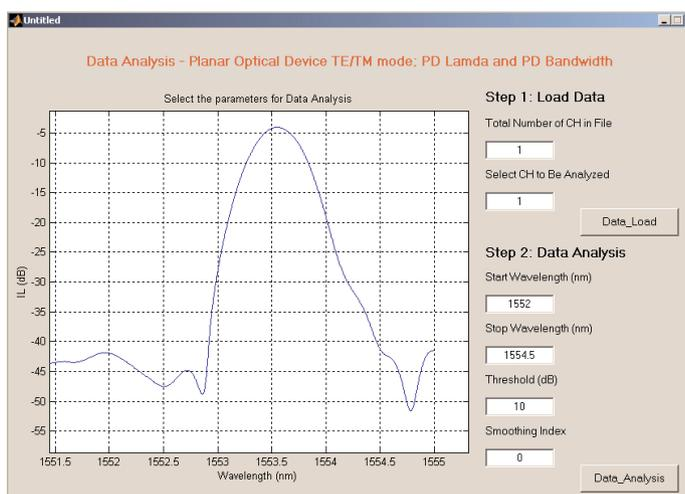

Figure 4. Zoom the analyzed area and input the data analysis parameters
After the data is loaded, use the left mouse button to zoom the area to be analyzed as shown in figure 4. Type the start and stop wavelengths for analysis. Select the insertion loss (IL) threshold used for calculating the central wavelength (CW) and bandwidth (BW). Select the smoothing index used for noise reduction. The definition of smoothing index is the same as the SWS application software. Click the “Data\_Analysis” button. It takes a few second to complete the calculation, depending on the amount of data saved in the .ppp file.